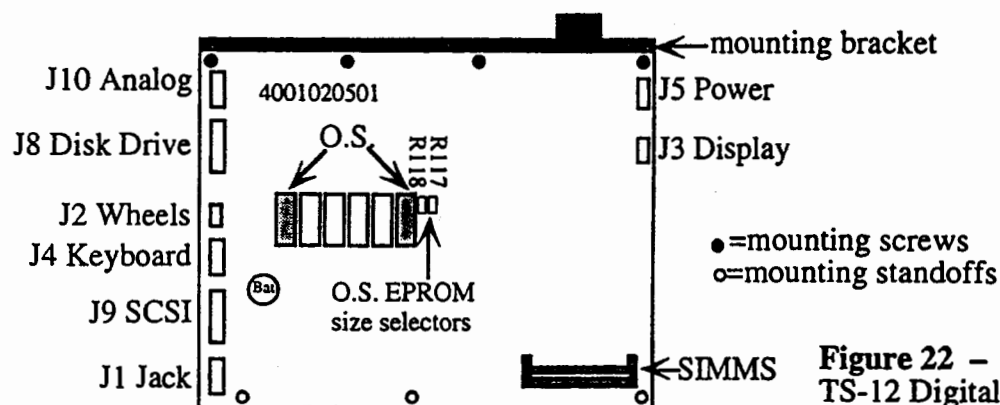

Figure 22 –
4. Remove the four (4) screws from the digital board, see Figure 22.
5. Pop the digital board off the three (3) standoffs holding the digital board to the I/O bracket by squeezing the standoffs with needlenose pliers.
6. Pop the digital board onto the three (3) standoffs.
7. Install the four (4) screws into the digital board to bracket.